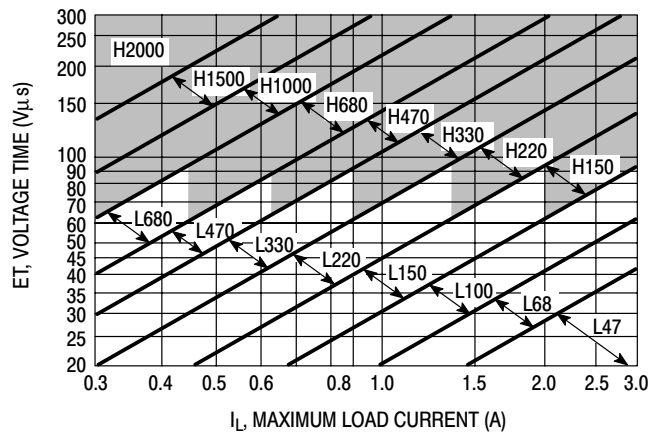
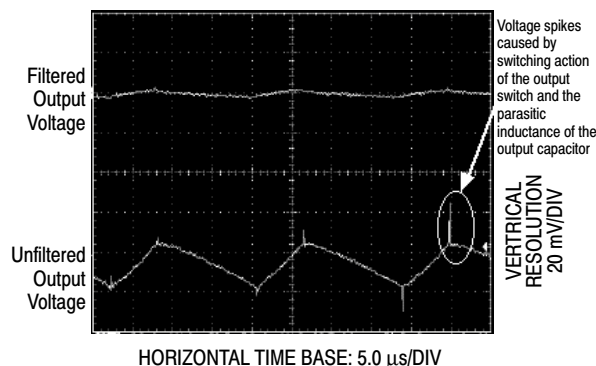

Figure 22. LM2576-ADJ
Figure 25. Output Ripple Voltage Waveforms
4. Inductor Selection (L₁) A. Use the following formula to calculate the inductor Volt x microsecond [V x μs] constant: $E \times T = (V_{in} - V_{out}) \frac{V_{out}}{V_{in}} \times \frac{10^6}{F[\text{Hz}]} \text{ [V x } \mu\text{s]}$ B. Match the calculated E x T value with the corresponding number on the vertical axis of the Inductor Value Selection Guide shown in Figure 22. This E x T constant is a measure of the energy handling capability of an inductor and is dependent upon the type of core, the core area, the number of turns, and the duty cycle. C. Next step is to identify the inductance region intersected by the E x T value and the maximum load current value on the horizontal axis shown in Figure 25. D. From the inductor code, identify the inductor value. Then select an appropriate inductor from Table 2. The inductor chosen must be rated for a switching frequency of 52 kHz and for a current rating of $1.15 \times I_{Load}$. The inductor current rating can also be determined by calculating the inductor peak current: $I_{p(\text{max})} = I_{Load(\text{max})} + \frac{(V_{in} - V_{out}) t_{on}}{2L}$ where t_{on} is the “on” time of the power switch and $t_{on} = \frac{V_{out}}{V_{in}} \times \frac{1.0}{f_{osc}}$ For additional information about the inductor, see the inductor section in the “External Components” section of this data sheet.	4. Inductor Selection (L₁) A. Calculate E x T [V x μs] constant: $E \times T = (25 - 8.0) \times \frac{8.0}{25} \times \frac{1000}{52} = 80 \text{ [V x } \mu\text{s]}$ B. E x T = 80 [V x μs] C. $I_{Load(\text{max})} = 2.5 \text{ A}$ Inductance Region = H150 D. Proper inductor value = 150 μH Choose the inductor from Table 2.
The regulator output voltage may also contain short voltage spikes at the peaks of the sawtooth waveform (see Figure 25). These voltage spikes are present because of the fast switching action of the output switch, and the parasitic inductance of the output filter capacitor. There are some other important factors such as wiring inductance, stray capacitance, as well as the scope probe used to evaluate these transients, all these contribute to the amplitude of these spikes. To minimize these voltage spikes, low inductance capacitors should be used, and their lead lengths must be kept short. The importance of quality printed circuit board layout design should also be highlighted.
In order to minimize the output ripple voltage it is possible to enlarge the inductance value of the inductor L1 and/or to use a larger value output capacitor. There is also another way to smooth the output by means of an additional LC filter (20 μ H, 100 μ F), that can be added to the output (see Figure 34) to further reduce the amount of output ripple and transients. With such a filter it is possible to reduce the output ripple voltage transients 10 times or more. Figure 25 shows the difference between filtered and unfiltered output waveforms of the regulator shown in Figure 34.